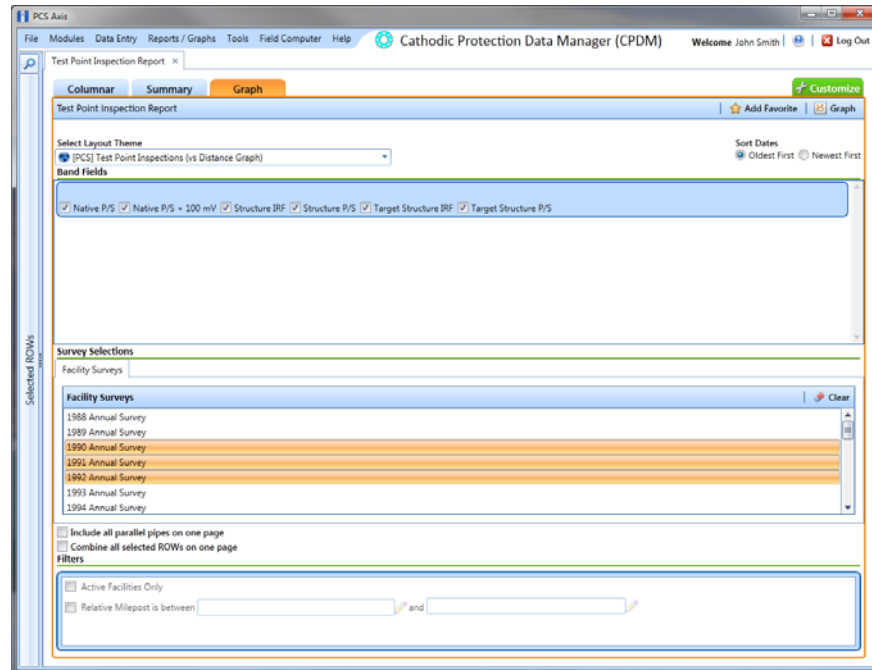

Figure 14-26. Test Point Inspection Graph Report
- 3 Click the **Graph** tab  to open a property settings window. For example, the following figure shows the property settings window for the *Test Point Inspection* graph (Figure 14-26).